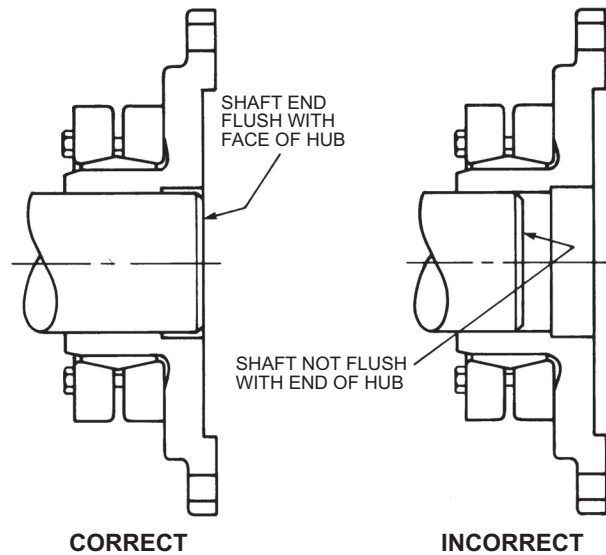

Figure 4
- (2) Mount hub flush with face of shaft. Allow hub to cool before proceeding. See Figure 4.
- (5) Slide both hub and shrink disc into place on the shaft. Mount hub as shown in Figure 4, so that each hub face is flush with the end of its shaft.